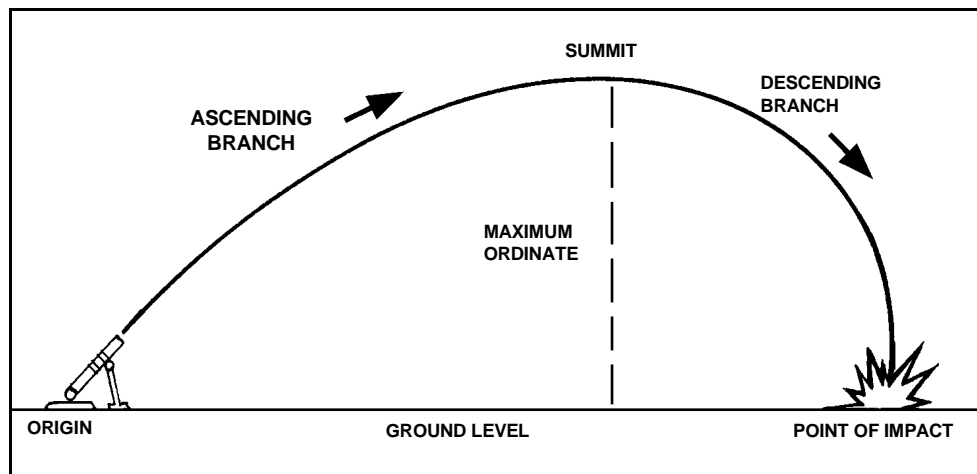

Figure 2-2. Elements of the trajectory.
Trajectory (Figure 2-2) is the flight path followed by a projectile from the muzzle of the mortar to its point of impact. The ascending branch is the portion of the trajectory traced while the projectile is rising from its origin. The descending branch is that portion of the trajectory traced while the projectile is falling. The summit is the highest point of the trajectory. It is the end of the ascending branch and the beginning of the descending branch. The maximum ordinate is the altitude (in meters) at the summit above the point of origin.
b. **Characteristics of Trajectory in Standard Atmosphere.** The velocity (Figure 2-2) at the level point is less than the velocity at origin. The projectile travels more slowly beyond the summit than before the summit so it does not travel as far.